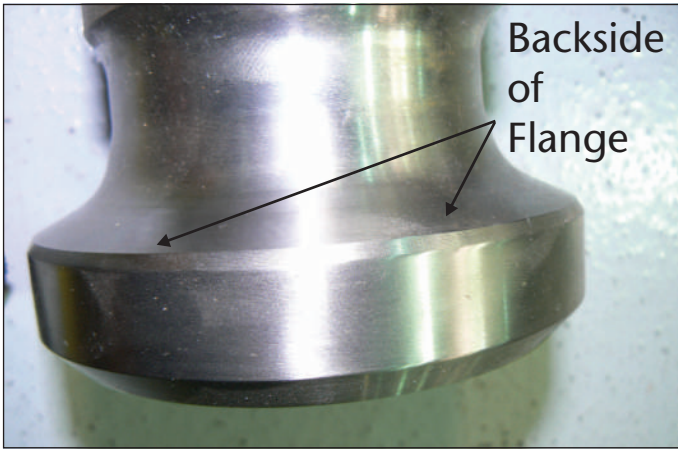

FIGURE 4 - Flange backside
- Visually inspect the backside of the flange (FIGURE 4 & 5) for impact damage or gouges. To be a concern, the gouge must have created a protrusion of material, preventing the clamp from freely sliding over the flange.